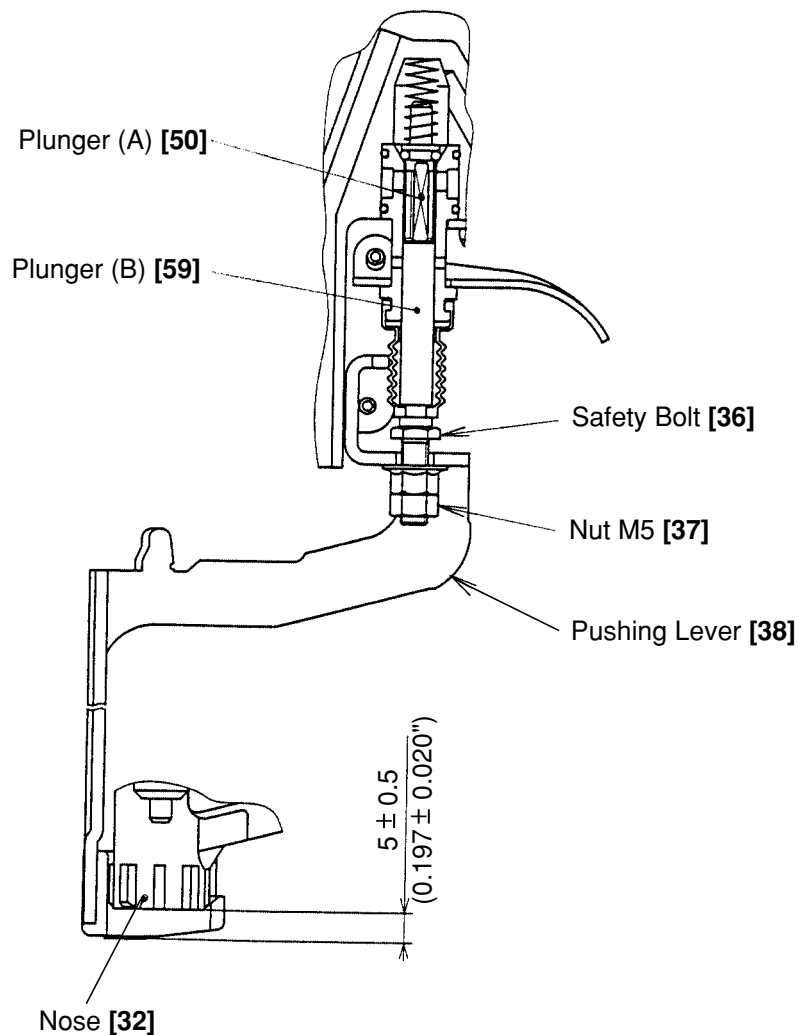

Fig. 17
(2) Adjustment of Safety Bolt [36] (See Fig. 17.)